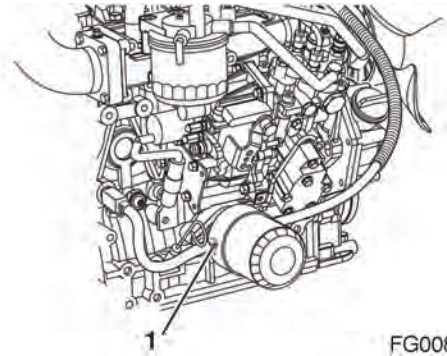

Figure 305
- On models equipped with an oil cooler, remove the coolant hose (1, Figure 305) at the oil cooler.